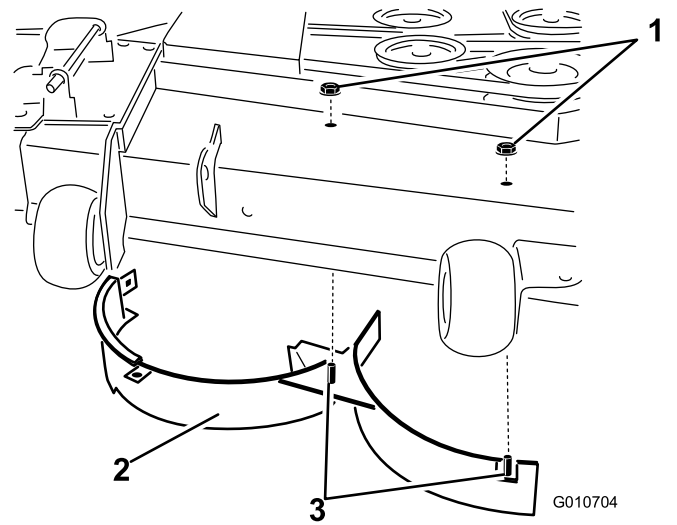

Figure 36
11. Remove the 2 locknuts (5/16 inch) securing the welded posts of the right baffle to the top of the mower deck at center and right of center positions (Figure 36).
12. Remove the carriage bolt and locknut securing the right baffle to the top of the mower deck and remove the right baffle from the mower deck (Figure 36).